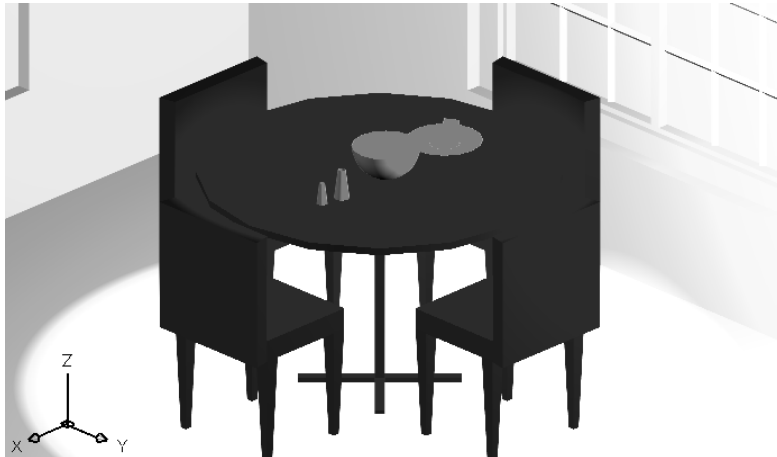

Figure 25-13: A rendering with lights but no shadows.
13. Choose Render from the Render toolbar. The Crop Window check box should be unchecked. Change the Light Icon Scale to 24 so that you can see the icons that AutoCAD creates at the location of each light you've created. (You should use the drawing scale factor.) In the Rendering Type drop-down list, choose Photo Real. Shadows should be unchecked. Click Render. The rendering should take less than a minute. It should look like Figure 25-13. There is more than enough light this time — but remember, you wouldn't normally eat breakfast with all of the lights on. Notice the effect of the yellow point light.